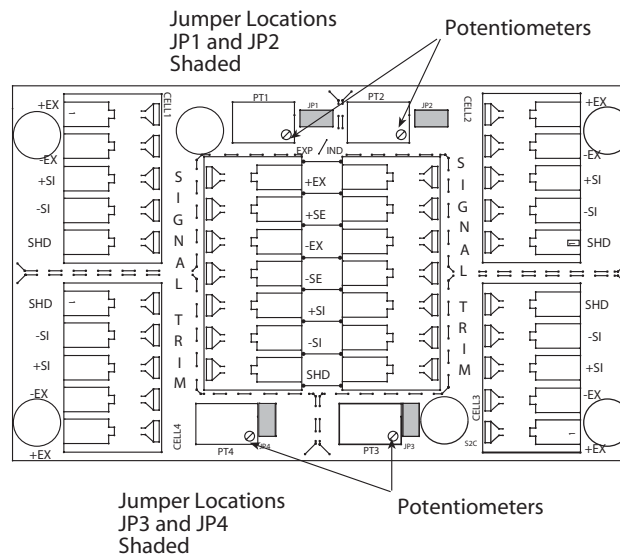

Figure 3-1. Trim Potentiometers
4. Turn all four potentiometers fully clockwise (shaded areas of Figure 3-1) to increase the reading until a clicking sound is heard from each potentiometer. This ensures the maximum signal from each load cell.